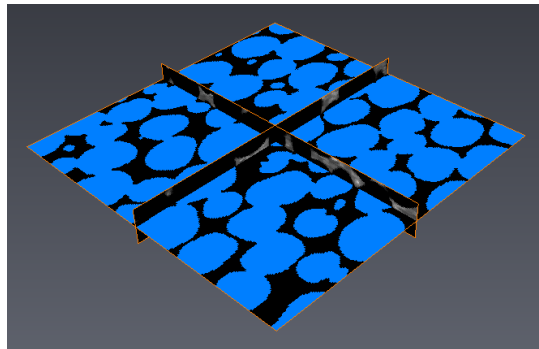

Figure 4.6: Binary image displayed with an *Ortho Slice*
- Connect the first *Ortho Slice* to the thresholded data. See the resulting display on Figure 4.6.